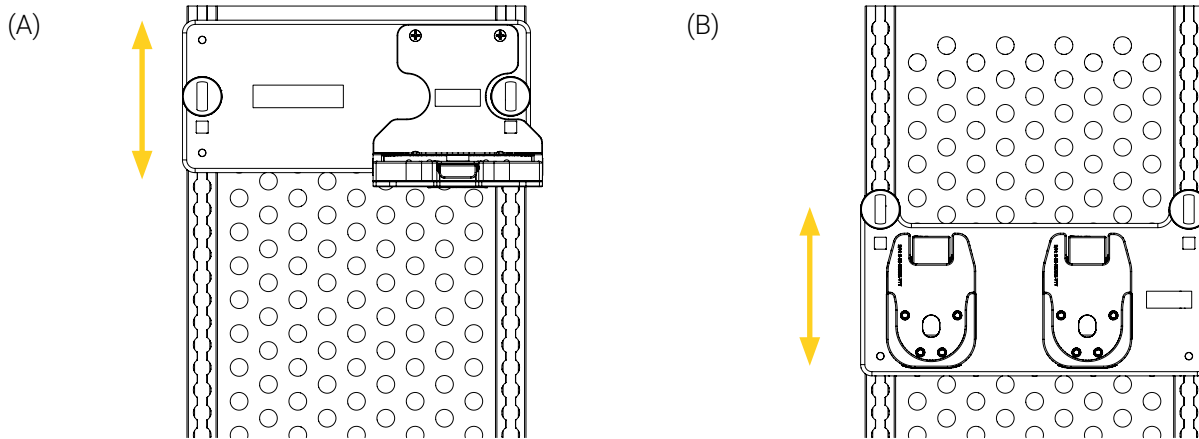

Figure 12: Removing the mounting system from the vertical tracks of the vertical surface (1 of 2)
4. Glide the mounting system upwards or downwards until the stud fittings can be removed from the slots of the vertical tracks (Figure 12).